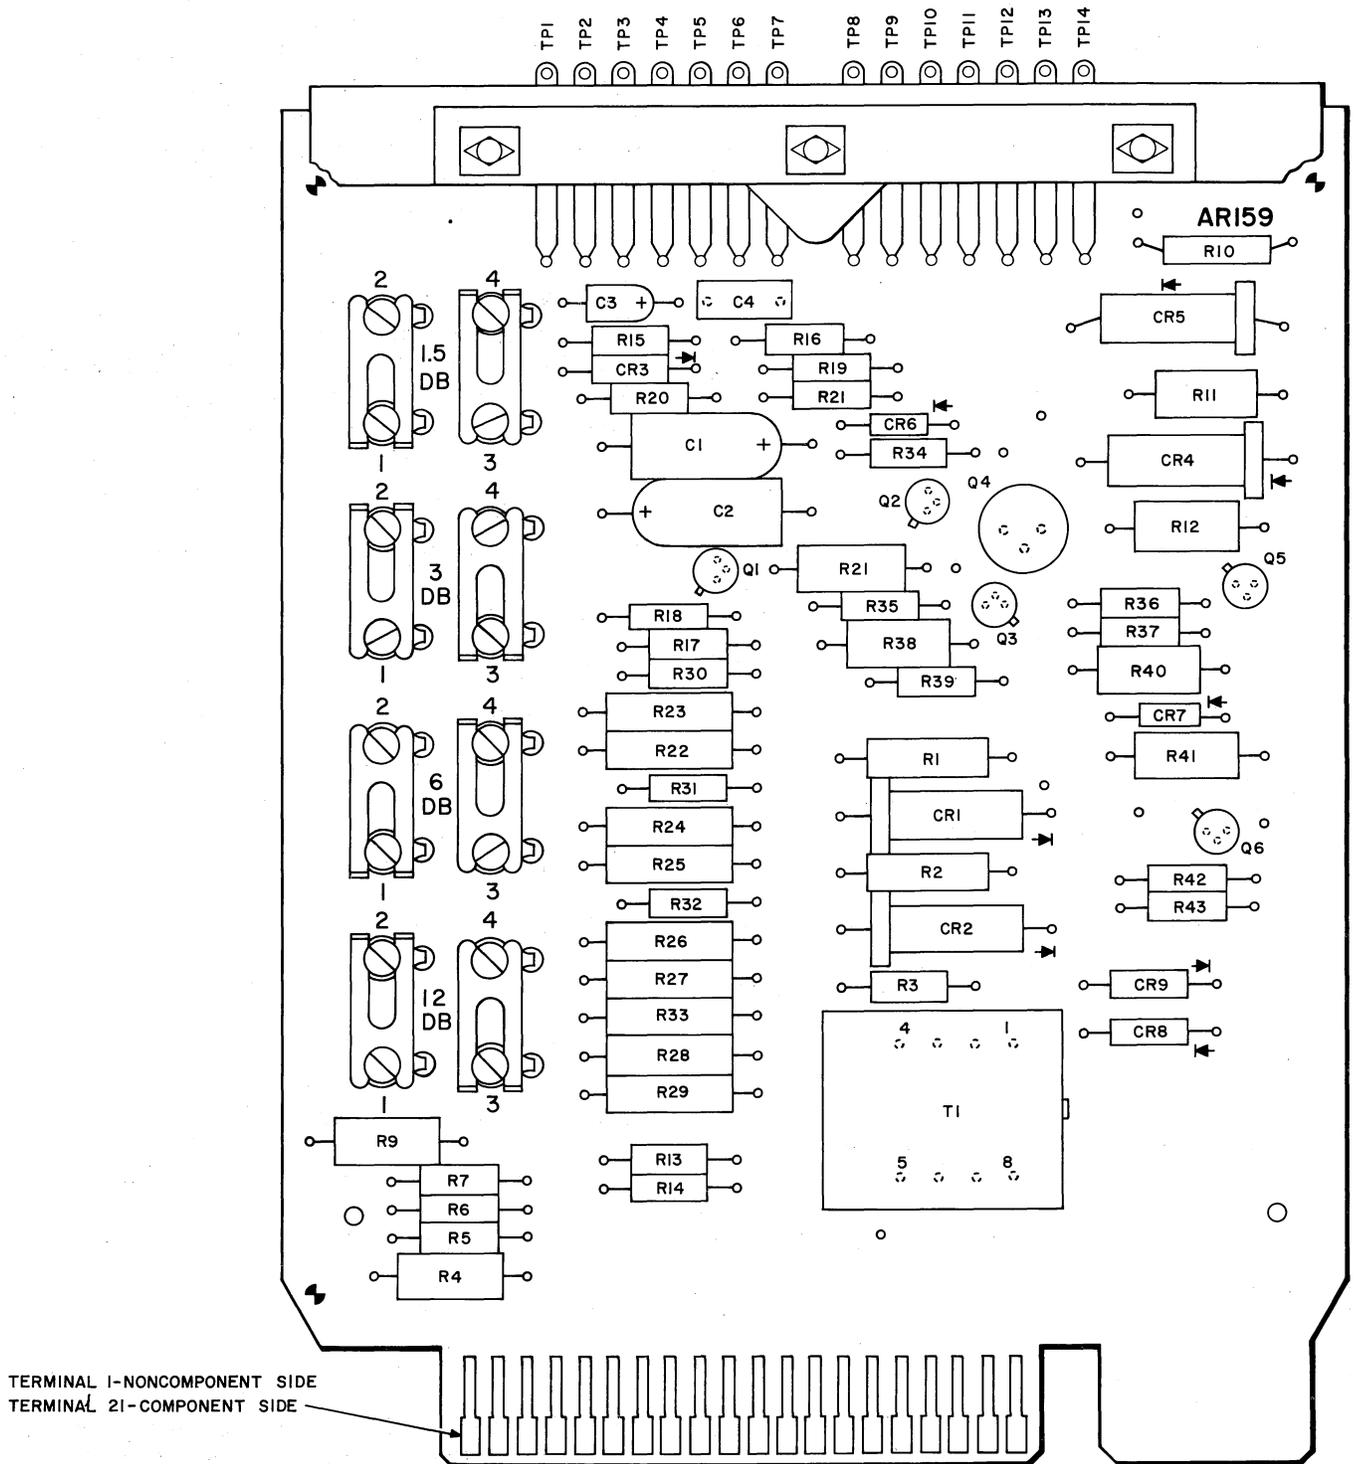

Fig. 4—Circuit Pack AR159 (Line Circuit) Board
3.11 Remove the circuit pack retaining bar from the "G" nest. Carefully remove the AR159 circuit pack from location G03. The AR159 Line Circuit board is illustrated in Fig. 4. This board contains four loss pads and other circuitry. By using combinations of the pads, the transmitter output level to the telephone line may be adjusted from 0 dbm to -18.0 dbm in 1.5 db increments.